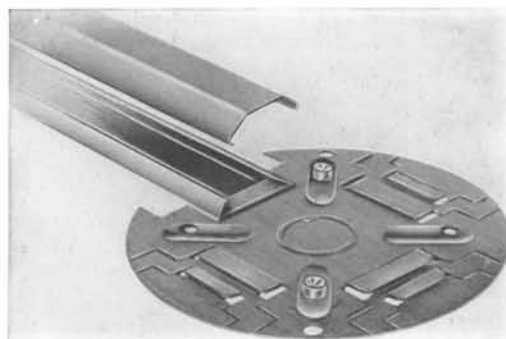

FIG. 11—BASE OF FITTING WITH COVER
- When using Wiremold or Florduct, cut small size covers $\frac{3}{8}$ inch shorter and large size covers $\frac{5}{8}$ inch shorter than their bases (see Fig. 11).